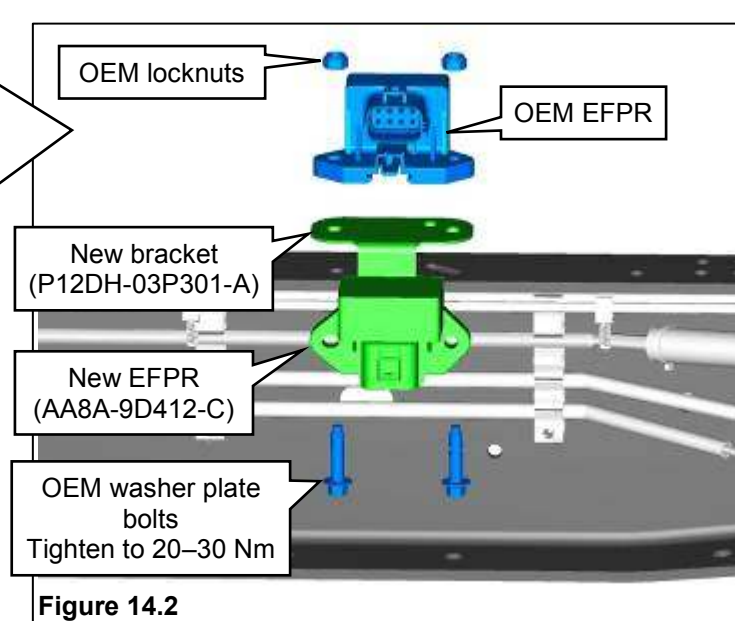

Figure 14.2
2. Attach the new EFPR to the new bracket by snapping it in place. **Figure 14.2.**